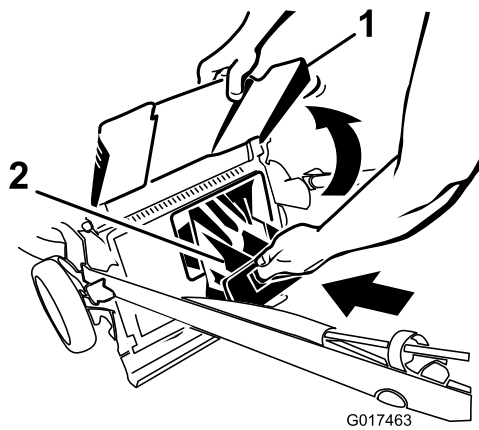

Figure 29
4. Install the rear-discharge plug (Figure 29).